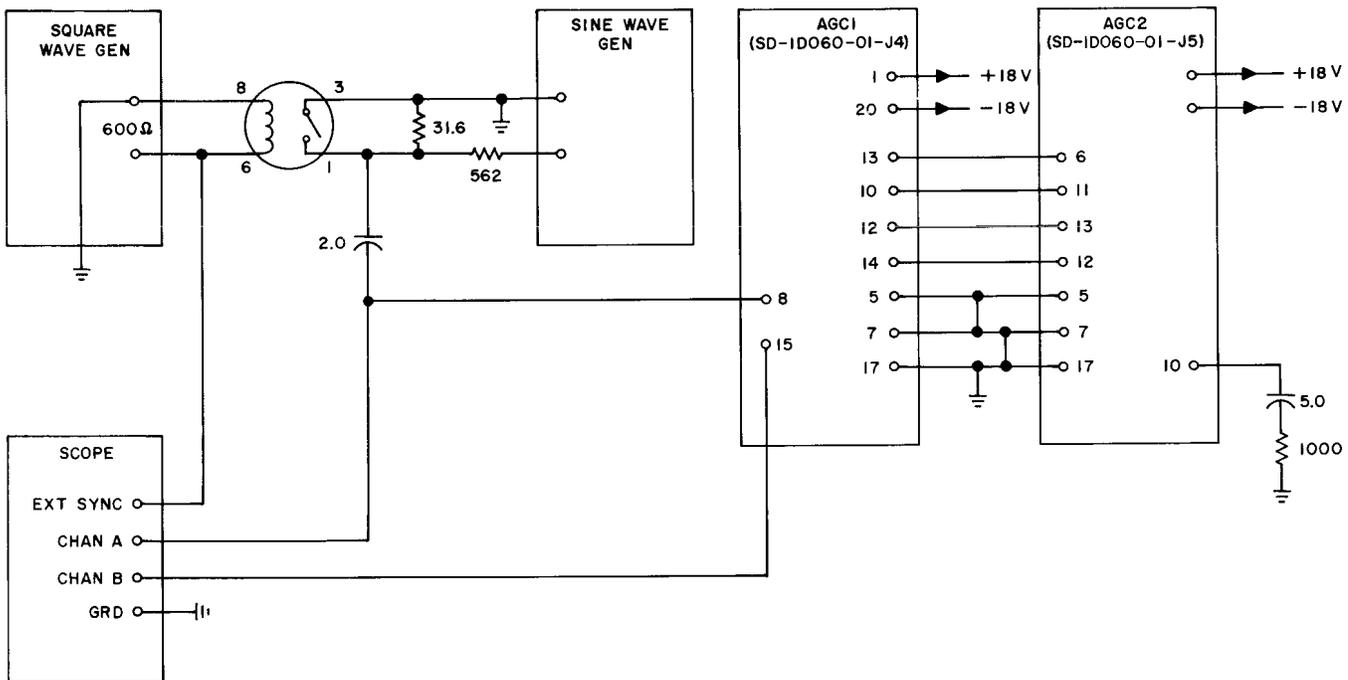
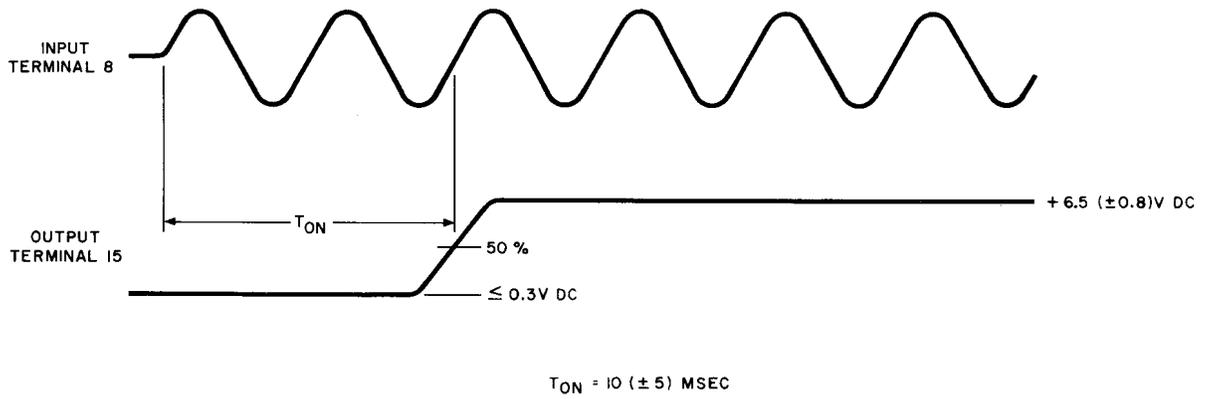

Fig. 28A — Automatic Gain Control 2 Test Circuit
Fig. 29A — Automatic Gain Control 2 Test
(1) The carrier detector response test of the AGC2 circuit pack is made in conjunction with the AGC1 circuit pack. Connect the circuit packs to the suggested test circuit shown in Fig. 28A. Apply power to both circuit packs as in 5.16A.
(2) Set the frequency of the square-wave generator to 1 Hz. Set the symmetry control to its center position and the 600-ohm output control to 0.
(3) Set the frequency of the sine-wave generator to 1800 Hz (± 5 percent). Adjust the generator amplitude control until the input level at terminal 8 of the AGC1 circuit pack is 2 dB higher than the level recorded in 5.18A (3). Set the 600-ohm output amplitude control of the square-wave generator to its center position.
(4) Set the scope EXT SYNC TRIGGER selector to the (+) positive position. The input waveform on terminal 8 of the AGC1 circuit pack and the output waveform on terminal 15 of the AGC1 circuit pack shall be as specified in Fig. 29A.